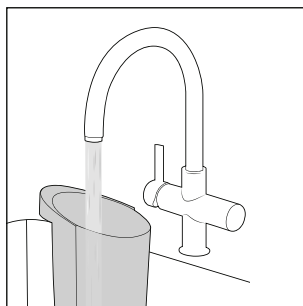

Fig. 23
- ◆ Rinse the waste water tank **2** in hot running water (see fig. 23).